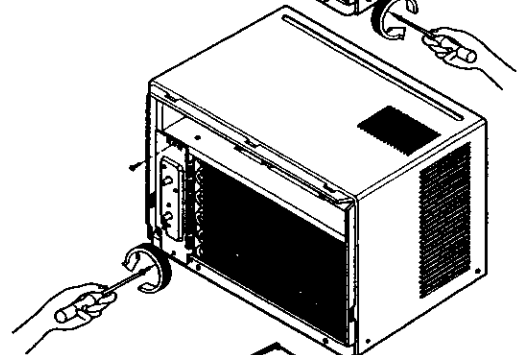

Figure 4
4. Remove 2 screws that secure the control board to base pan and orifice. (See Figure 4)